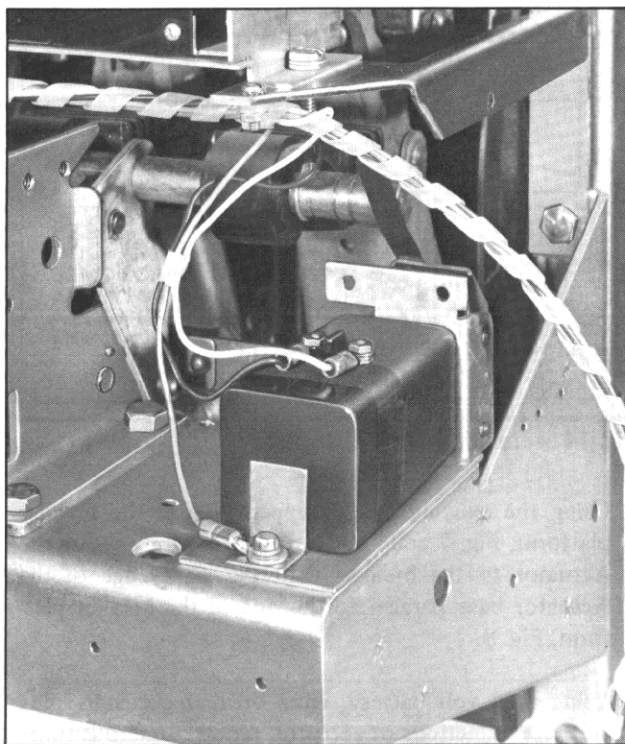

Fig. 11 *Actuator Mounted and Wired*
4. Connect the red and black wires to the Actuator using the .138-32 nut lock and flat washer, see Fig. 11.
5. Connect the white wire to the .190-32 x .75 screw on the Actuator and firmly secure the Actuator to the platform. This now grounds the sensor star point, see Fig. 11.